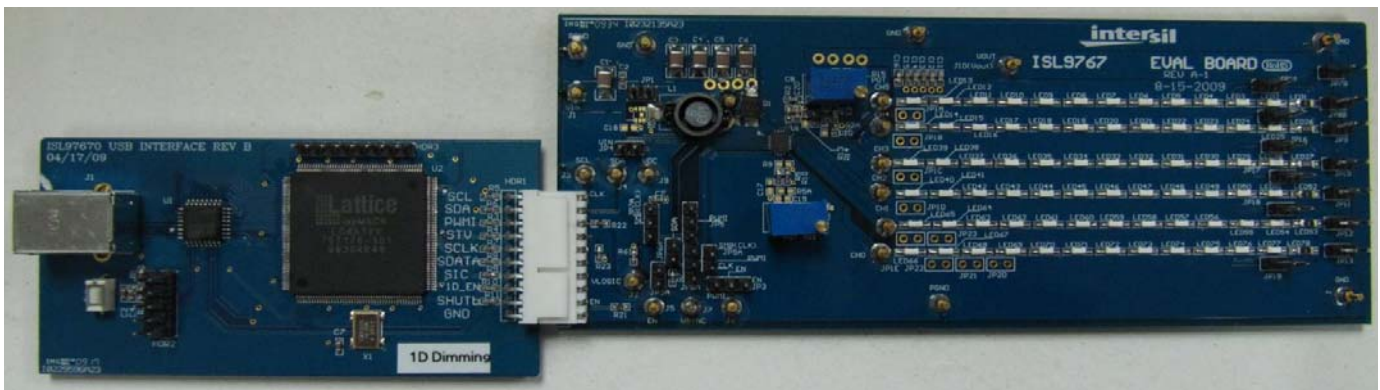

FIGURE 2. I2C INTERFACE BOARD CONNECTED TO ISL97671IRZ-EVAL EVALUATION BOARD
4. Connect the I2C interface board to the ISL97671/2/3/4IRZ-EVAL Evaluation Board as shown in Figure 2 for I2C control.